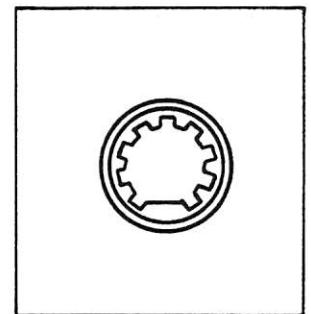

Figure 3. Space on Shaft
1. Ignition driver rotor shaft and shaft extension are provided with one spline tooth omitted (or space) on each shaft for easy installation. (Figure 3)